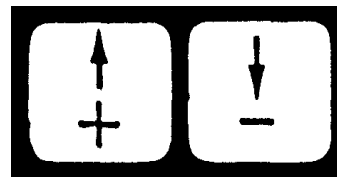

Fig.1
4.2.1 Indstillingstaster +/- (fig.1)